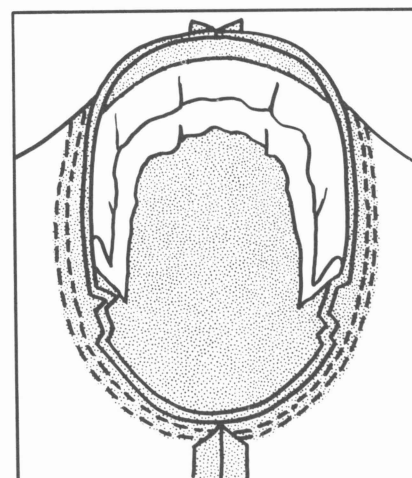

Figure 35. Turn all layers into the sleeve.
5. Turn all layers into the sleeve cap (Figure 35). Try on the jacket to determine how much of the sleeve head, if any, needs to be trimmed to reduce bulk and buckling of the sleeve head. Round off corners.